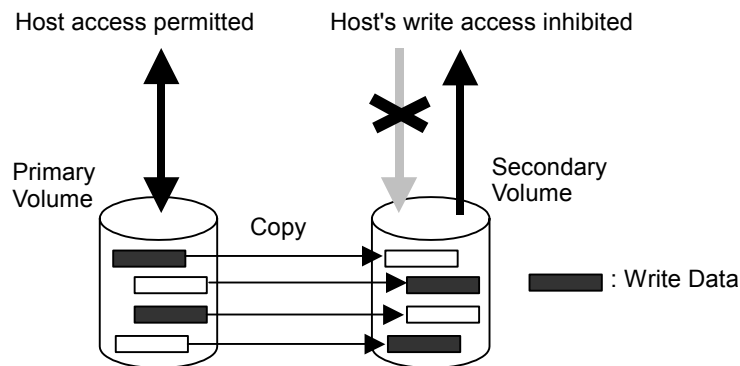

Figure 2.7 Normal Pairresync Operation on a ShadowImage 9500V
- **Normal.** The normal pairresync operation (see Figure 2.7) resynchronizes the S-VOL with the P-VOL. The copy direction for a normal pairresync operation is P-VOL to S-VOL. The pair status during a normal resync operation is COPY(RS). The S-VOL becomes inaccessible to all hosts for write operation, and the P-VOL remains accessible to all hosts for both read and write operations during a normal pairresync. The normal pairresync operation can be executed for pairs with the status PSUS and PSUE.